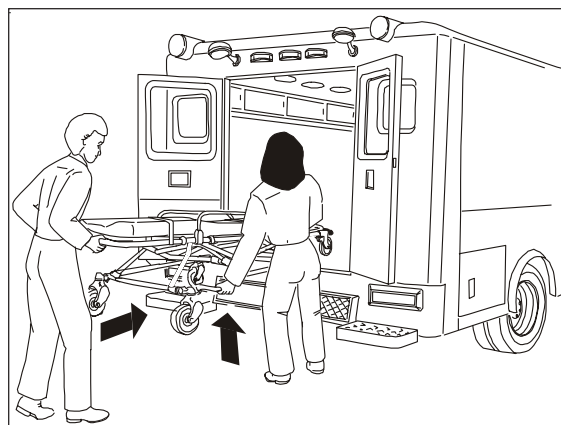

Figure 21 - Loading the Cot
6. *Both Operators:* Head-End Operator grasps undercarriage lifting grip and raises (folds) undercarriage while Foot-End Operator pushes cot into patient compartment (Figure 21), guiding the right head-end loading wheel into the right antler hook (see 175 Fastener users' manual for complete fastening instructions).